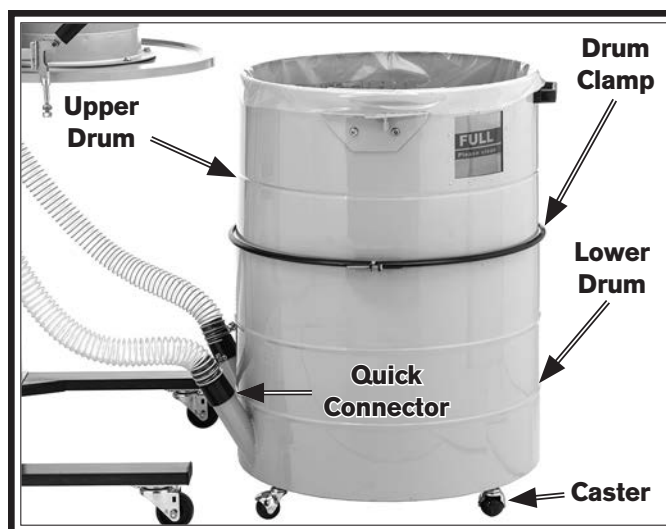

Figure 27. SB1094 collection drum assembled.
- 23.** Thread (4) drum casters into holes on underside of drum (see **Figure 27**).
- 24.** Connect 2" dust hose(s) with quick connector(s) to lower port(s) of collection drum (see **Figure 27**).